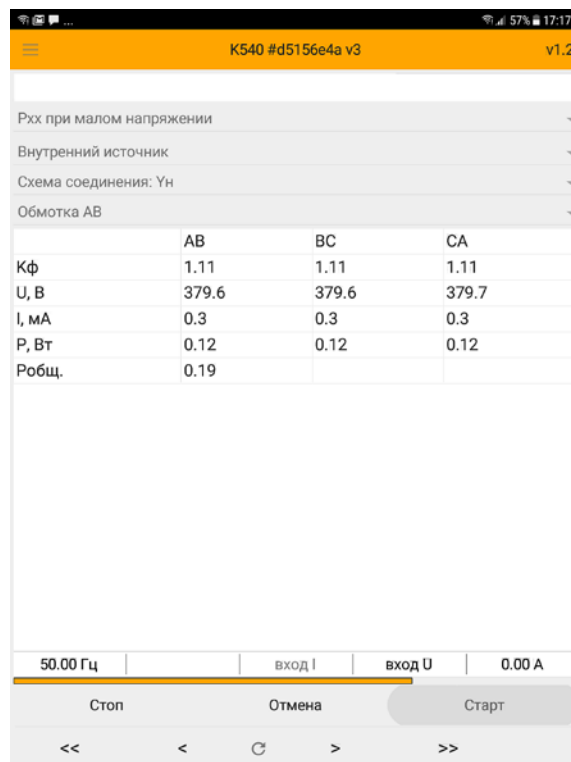

Figure 6.4
6.1.1.6 Activate the screen field labeled “Start” and click on the field with icon “>>”. Watch the growth of drive voltage shown in columns AB, BC, AC (Figure 6.4).
6.1.1.9 Perform the standby loss measurement – under procedure in 6.1.1.5-6.1.1.7, for two other phase combinations (AB, BC, AC). At that, the entire table (Figure 6.4) will be filled, and bottom line will display the total standby loss value, at low drive voltage.
6.1.4.7 Connect the test transformer to excitation circuit (Figure 6.4, points A, B, and C) and supply power to T1, T2, and T3 transformers. At that, control the symmetry of drive voltage by lines UfaseB, UlinB and, if necessary, adjust it – by turning the knobs of respective T1, T2, and T3 transformers.
6.1.4.8. Table lines (Figure 6.4) show the values of drive voltage (I, A) and loss (P, W).
6.1.5.3 Disconnect the test transformer from excitation circuit (Figure 6.4, points A, B, and C).